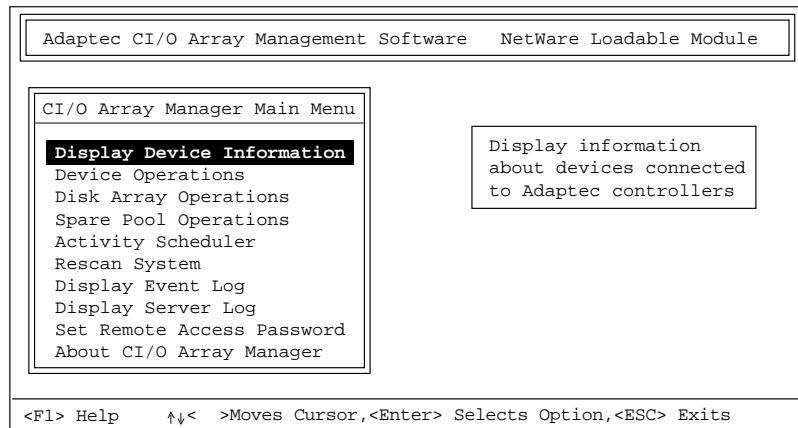

Figure 3-1. CI/O Array Management Software Main Menu
- 4 When the Main Menu appears, as shown in Figure 3-1, you are ready to use Adaptec CI/O Array Management Software.